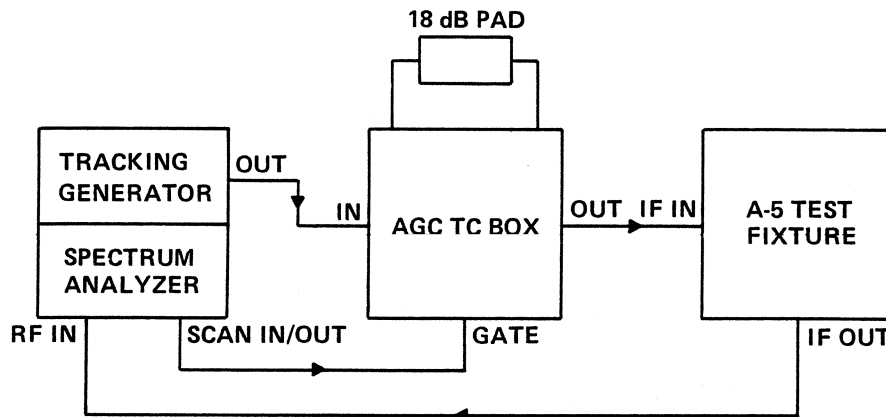

Figure 6-6. Equipment Set-Up Diagram, AGC Adjustment
11. Connect the AGC TC box as shown in Figure 6-6.